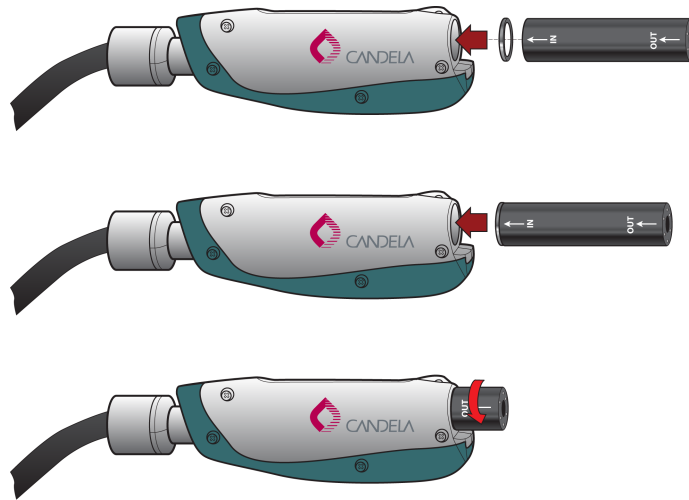

Figure 4-5: Window Removal Tool (Replacing)
8. Grasp the clean or new window by the edges and magnetically attach it to the other end of the Window Tool where the “In” arrow is located (the orientation of the window does not matter). See **Figure 4-5**.